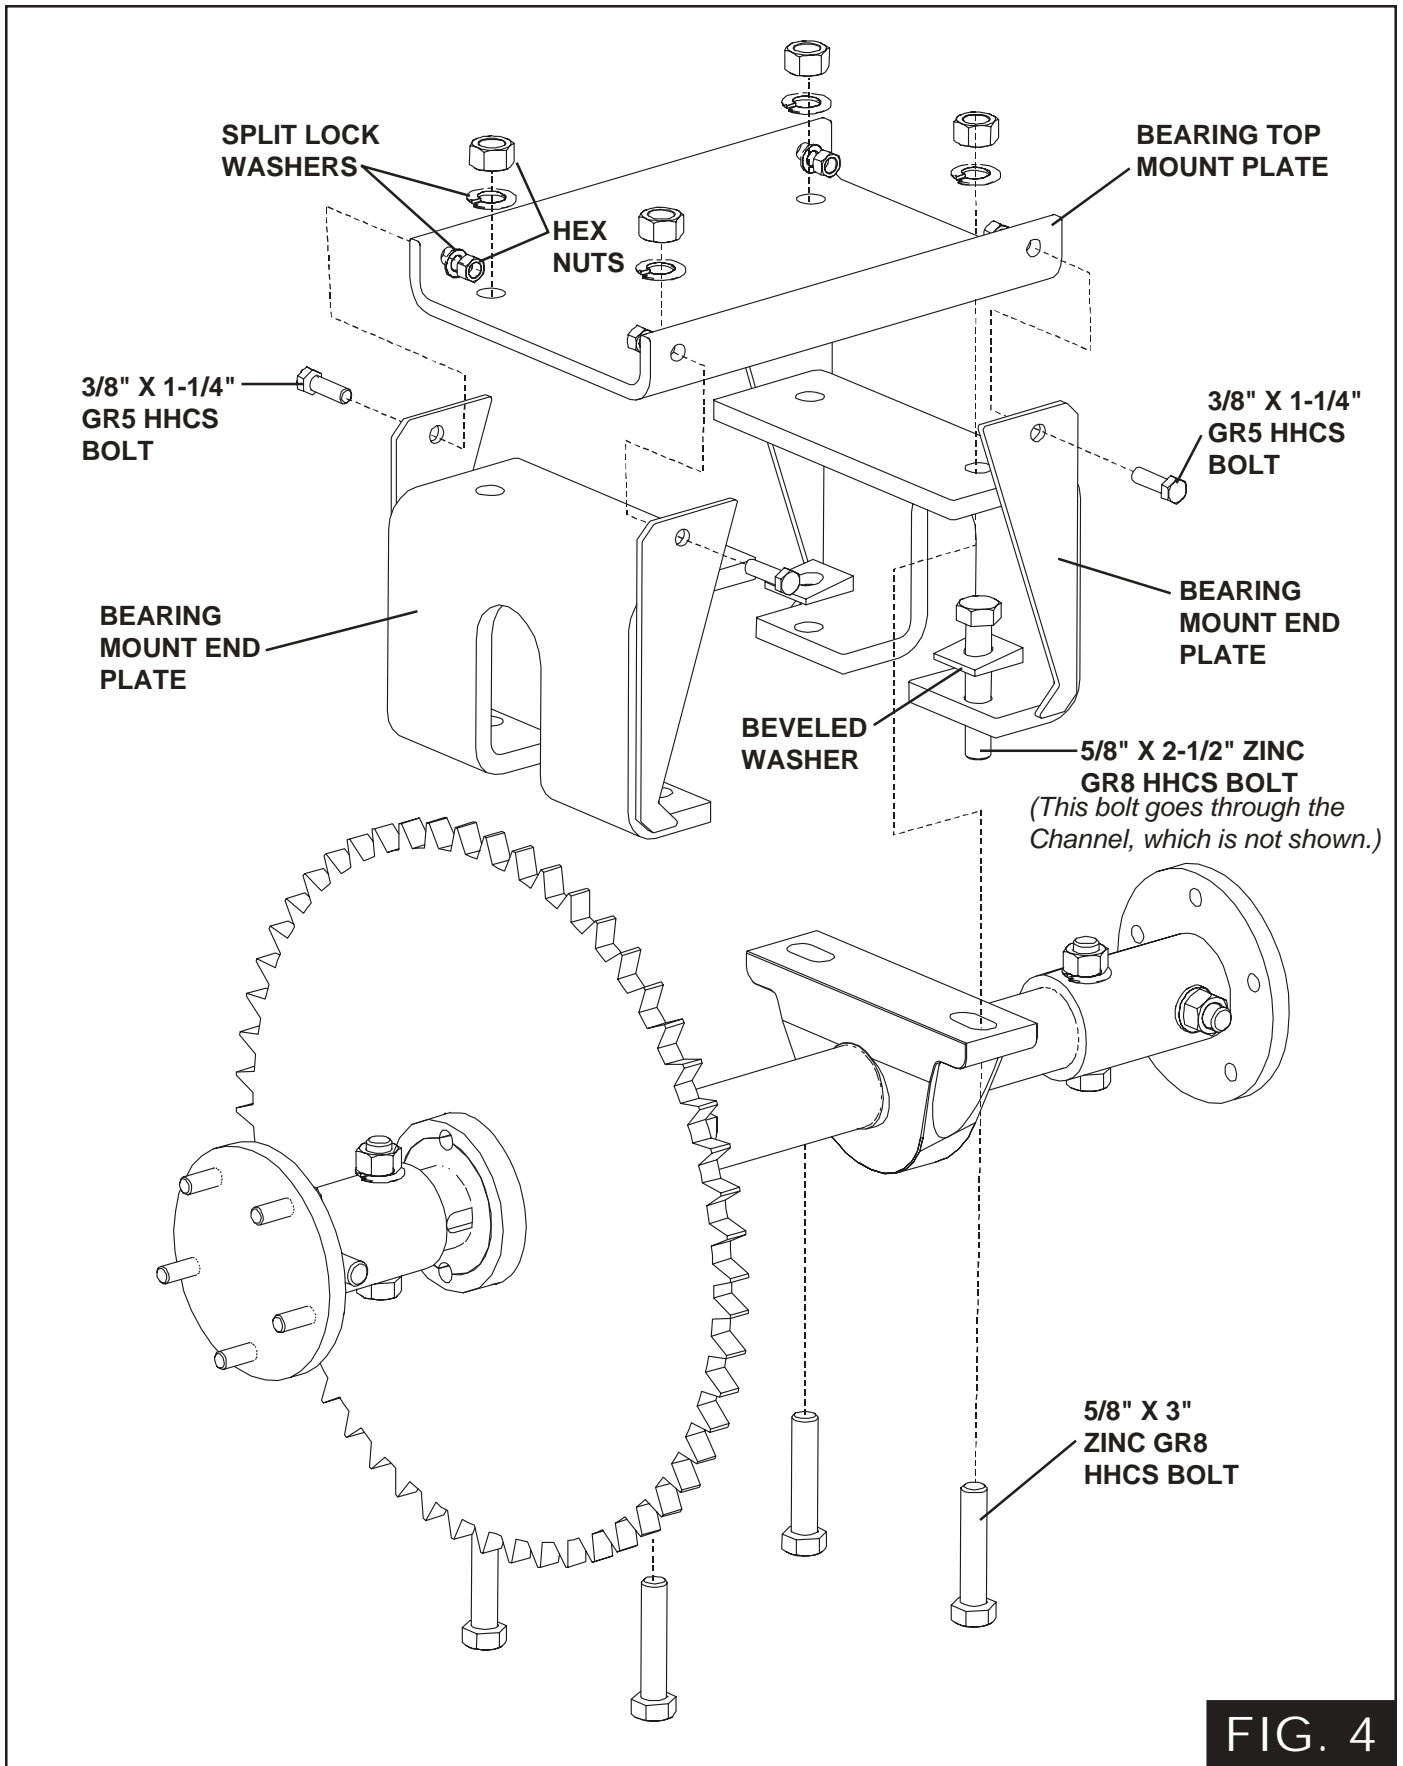

FIG. 4
6. Guide bearing mount end plates onto shaft and hook under the channels, lining up the bolt holes with the holes where the bearings were previously attached. (See Figure 1.) Fasten bearing mount end plates to channels using (4) 5/8" x 2-1/2" Zinc GR8 bolts, beveled washers, lock washers, and hex nuts as shown in Figure 4 & 5.
7. Attach the bearing mount top plate to the bearing mount end plates using (4) 3/8" x 1-1/4" GR5 bolts with split lock washers and hex nuts. Bolt heads should be against the end plates as shown in Figure 4 & 5.
9. Fasten the bearings to the end plates and top plate using (4) 5/8" x 3" GR8 bolt with lock washers and hex nuts. The bolt heads should rest against the bearings. Tighten set screws on bearings. (See Figure 4 & 5.)